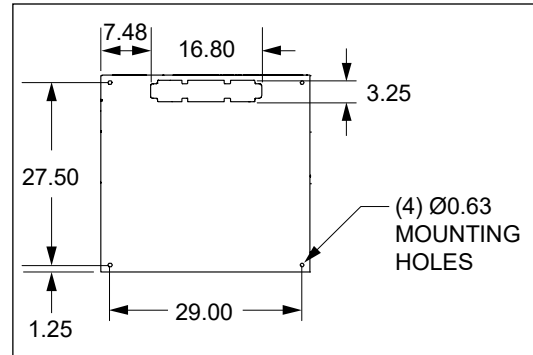

Figure 6
- Figure 6 shows the required conduit openings and mounting hole dimensions for entering/mounting the bottom of the CUBE. Use these dimensions when designing the pad.